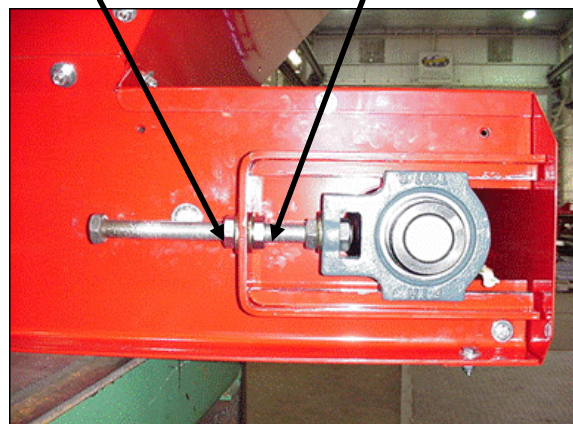

Figure 19: Tensioner rod and locking nuts
4. With two wrenches, hold the end of the tensioner rod stationary and then loosen the locking nut, which is the nut closest to the end of the rod (Figure 19).
3. On the side the belt is tracking towards, hold the end of the tensioner rod stationary, then loosen the locking nut and tighten the adjuster nut by two flats of the nut. See Figure 19.